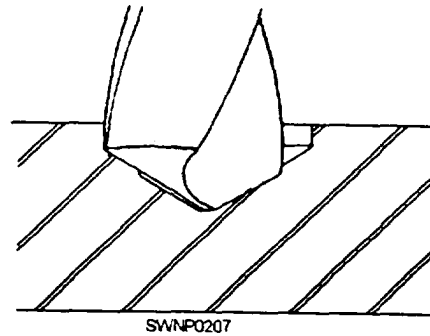

Figure 12-21.—Drill point off center.
3. **THE PROPER LOCATION OF THE DEAD CENTER** (fig. 12-21). Equal angles but lips of different lengths results in oversize holes and the resulting "wobble" places tremendous pressures on the drill press spindle and bearings.